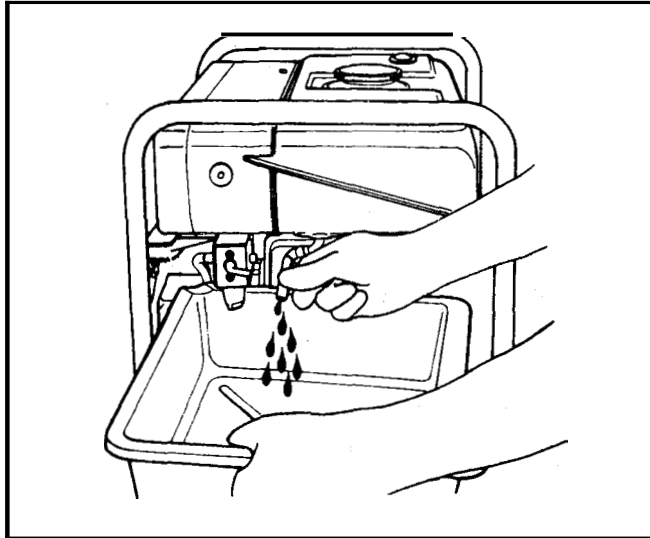

Figure 53
2. Remove the fuel hose and drain any gasoline remaining in the tank. See Figure 53.